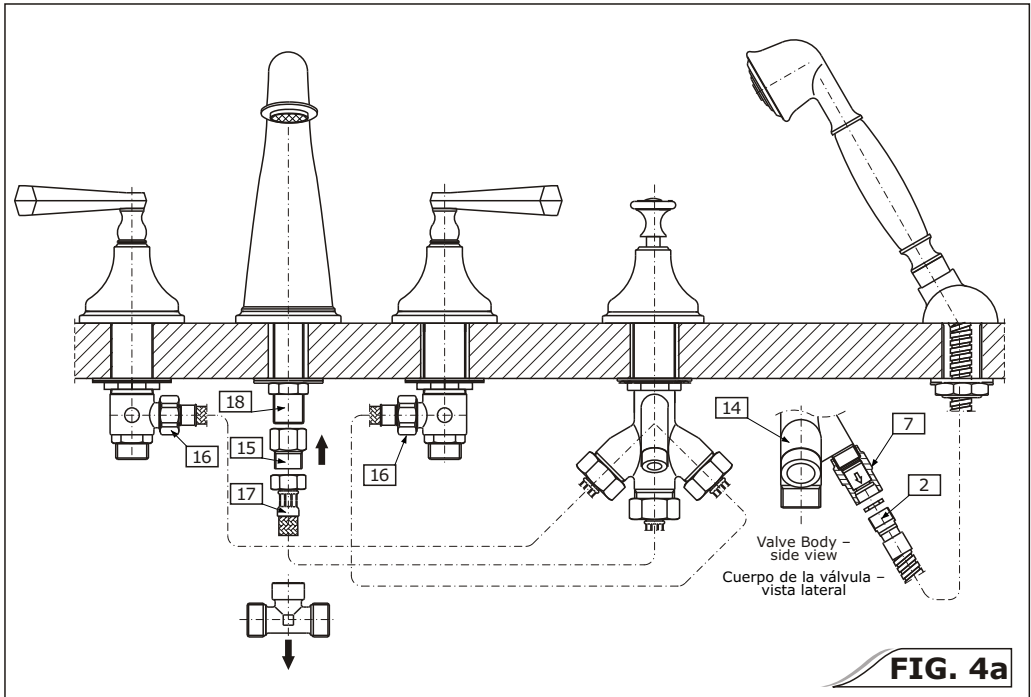

FIG. 4a
- 1) Position the shower head base (3) in the axis of the assembly hole. Ensure that the washer (4) of the base is properly in place under the base (3).
- 2) Put the rubber pad (5) on from below and screw on the flange nut (6). Position the base and screw home the nut (6).
- 3) Put the coated shower head nut with the external o-ring through the shower hose (2). Insert the shower hose (2) through the base of the shower head by its narrow end. Connect the shower head (1) to the hose (2), taking care that the flat seal is positioned correctly. Screw the other end of the hose (2) into the casing of the check valve (7), keeping in mind the positioning of the flat seal.
- 4) Wind the teflon tape onto the threaded pipe (18) of the Roman tub spout and screw on the tube coupling (15). Connect the central outlet of the diverter valve to the tube coupling (15) using the hose (17).
- 5) Install the 19-11/16" (500mm) hoses (16) in place of the 11-13/16" (300mm) hoses as shown in fig. 4a.